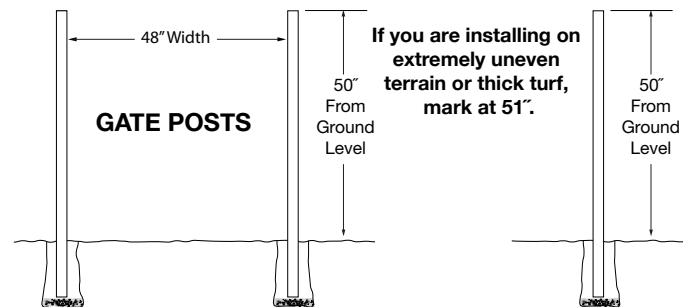

Fig. 2
- Dig post holes at all staked locations using a power or manual post hole digger. Each post hole should be 6" wide and 22" deep. (Fig. 2)
- Insert marked posts into the center of the post holes. Align the "ground" line on the posts with the ground. Add gravel as necessary to achieve the desired height (Fig 2).
- Dig line post holes following the same process used in Step 1 (Fig. 2).